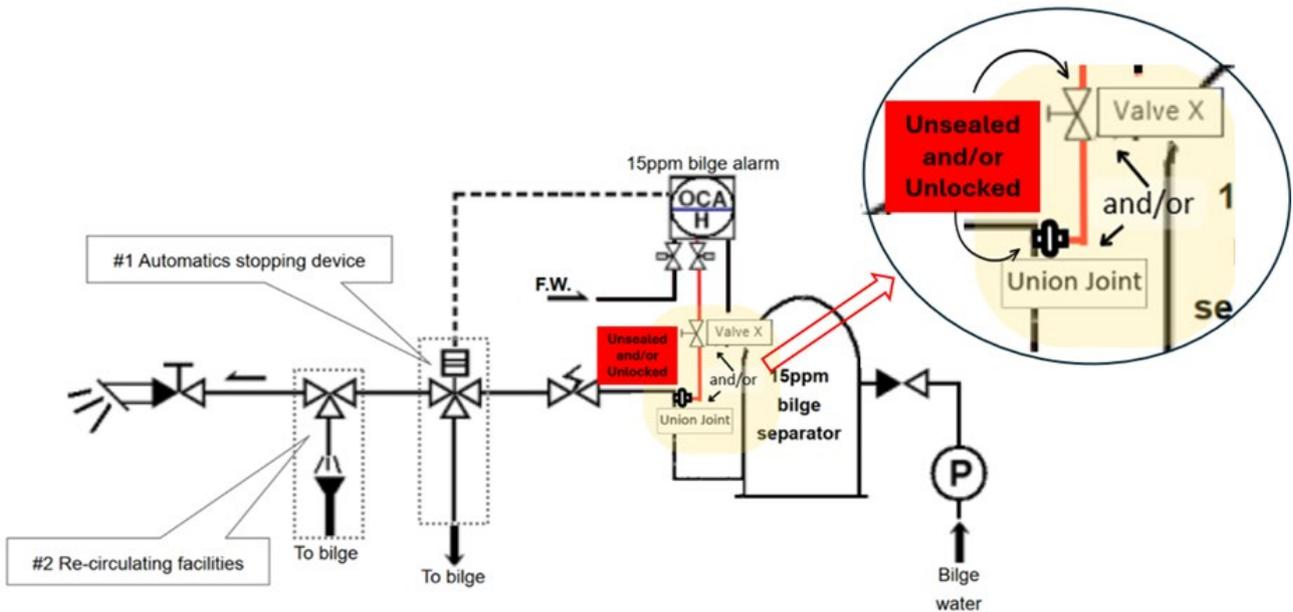

Figure 2 Arrangement where Valve X and/or the Union Joint is Unsealed
BB) Valve X and/or the Union Joint are **unsealed** (Refer to Figure 2)
② If Valve X and/or the Union Joint are **unsealed**, (Refer to Figure 2)